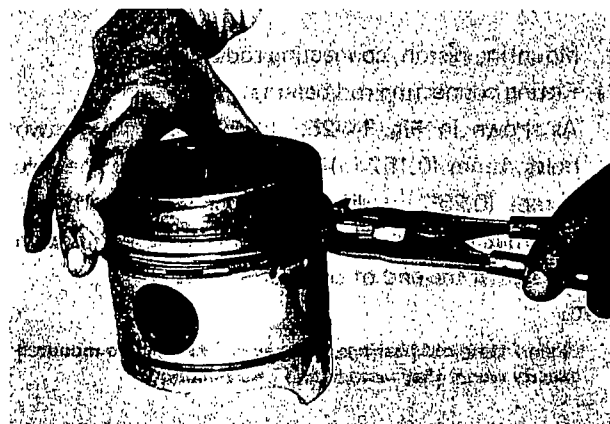
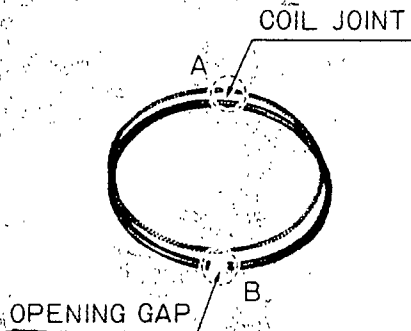

Fig. 3-4-23 Fitting piston ring
Fig. 3-4-24 Fitting section
- (1) To fit piston ring to piston, place piston skirt down and use piston ring expander (special tool No. 09442-1011). Hold piston ring stamped side up (top side of piston), and fit, beginning with the bottommost ring and working up in the sequence of Fig. 3-4-23 and Fig. 3-4-24.
- 1) Tightly close the joint of coil expander. When the joint, 180° opposite to the joint of oil ring, put coil expander in oil ring. (See Fig. 3-4-24).